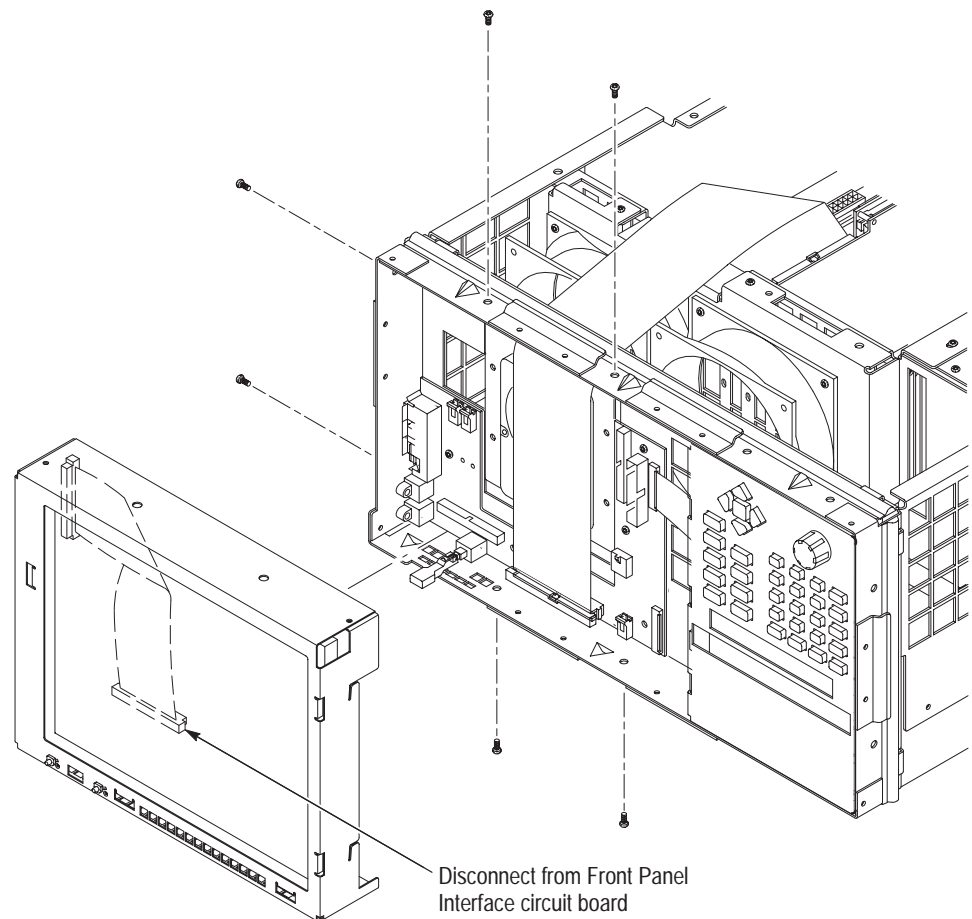

Figure 6–8: Flat panel display removal
2. Remove the six screws attaching the display assembly to the chassis. There are two screws at the top, two at the bottom, and two at the left side of the assembly (see Figure 6–8).